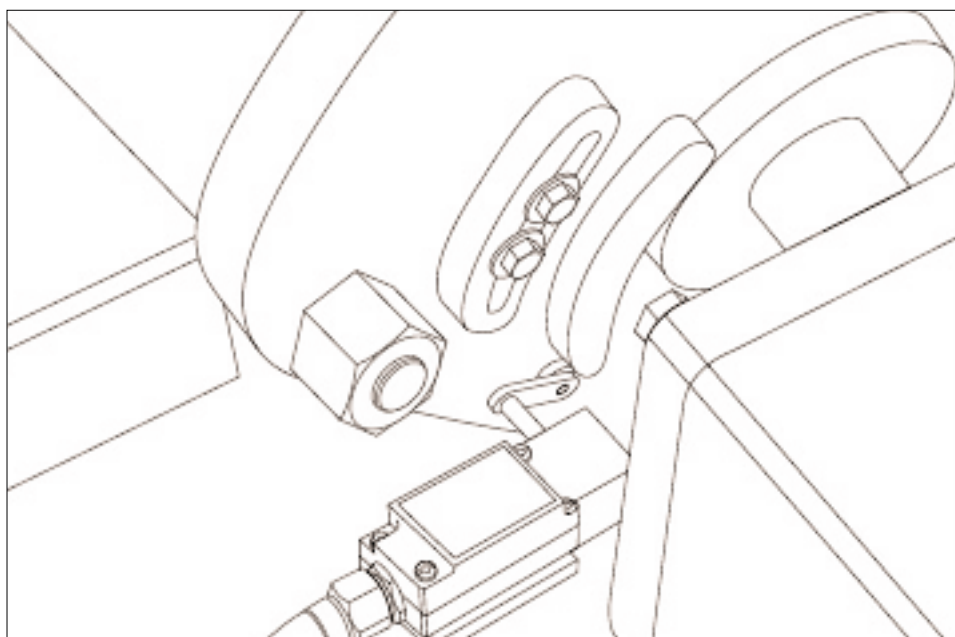

Figure 6.10 LIMIT SWITCH LS-7.
6.2.4 Set actuator on block delivery drive cam to trip LS-7 (see figure 6.10).